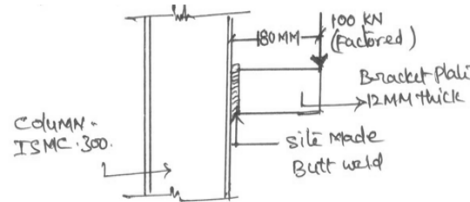

Figure 3
- (b) A 10mm thick bracket plate used to transfer reaction 100kN (factored) at eccentricity 150mm from column flange. Design a suitable site made butt weld. (Use steel strength f_u 410MPa and f_y 250MPa) shown in Figure 3. [7M]